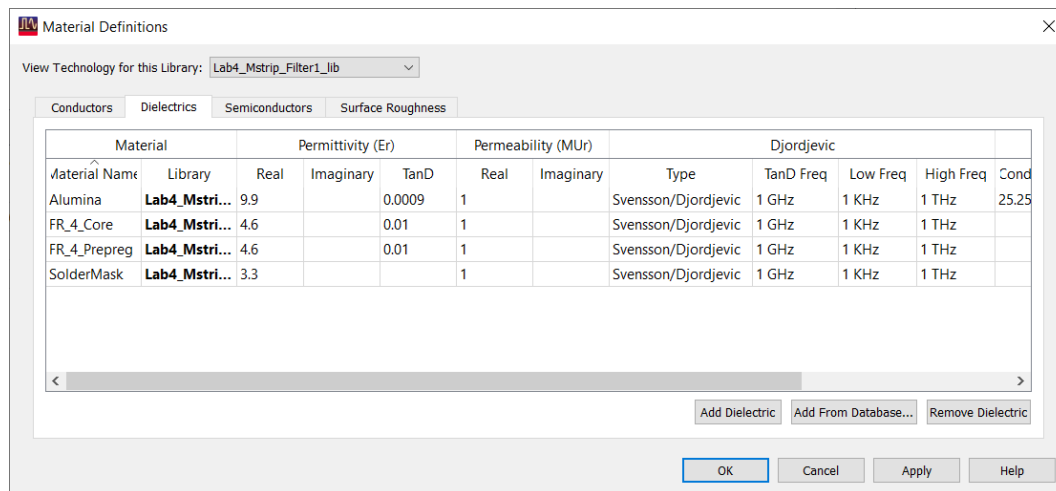

Figure 14. Edit Dielectric Properties
- In the Dielectrics tab, modify Alumina to have  $\epsilon_r = 9.9$  and  $\tan \delta = 0.0009$ , as shown in Figure 14. These are the same parameters that were used in the schematic design.